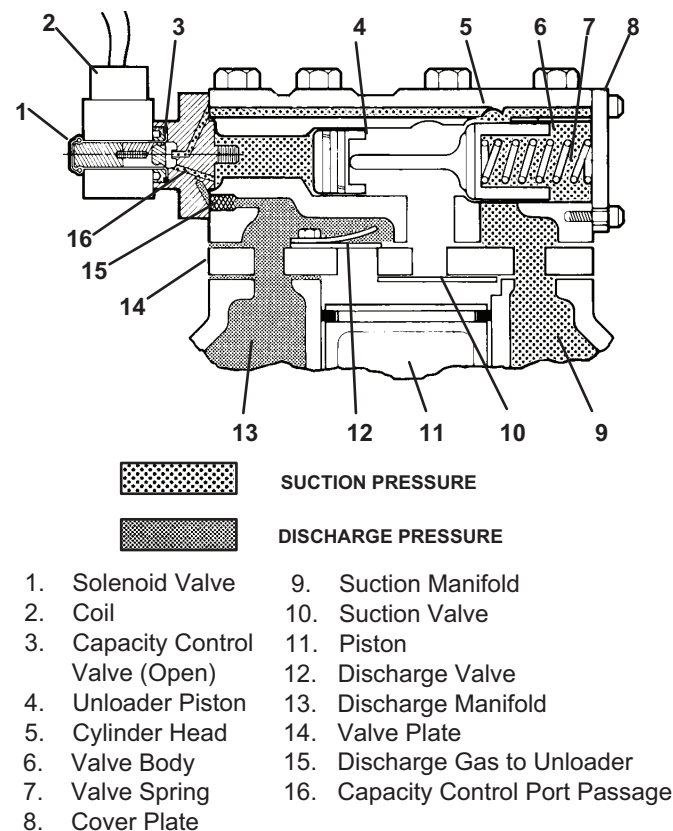
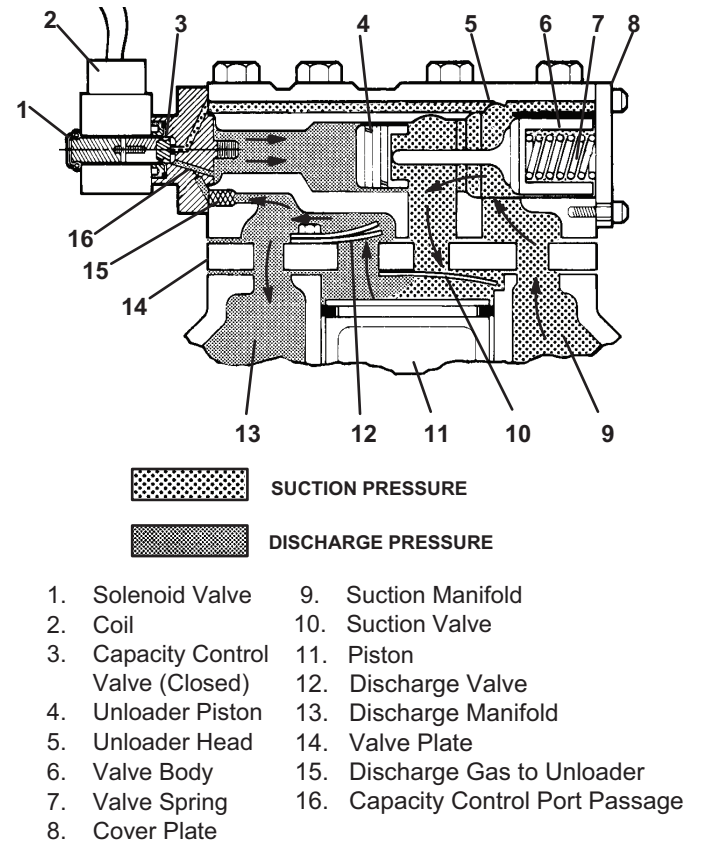

Fig. 6 — Compressor Cylinder Head Unloader - Suction Cut-Off
Fig. 7 — Compressor Cylinder Head Loaded - Suction Cut-Off
head. When the solenoid energizes, cylinders unload, preventing suction gas from being drawn into the cylinder (see Fig. 6). The unloaded cylinders operate with little or no pressure differential, consuming very little power. A de-energized solenoid reloads the cylinders as shown in Fig. 7.
When the unloader valve solenoid energizes, the capacity control valve port opens (item 3, Fig. 6). This allows the discharge gas behind the unloader piston assembly (item 4) to vent back to the suction side. The unloader valve spring (item 7) at this point, can move the unloader valve body to the left, blocking the unloader suction port. The cylinder bank is now isolated from the compressor suction manifold to unload these two cylinders. No refrigerant is allowed into the cylinders and no compression takes place.
When the unloader valve solenoid de-energizes, the capacity control valve port closes (item 3, Fig. 7). This allows discharge pressure to build up behind the unloader piston assembly. The high pressure will compress the unloader valve spring, opening the unloader suction port. Suction gas can now be drawn into the cylinders, running the bank fully loaded.